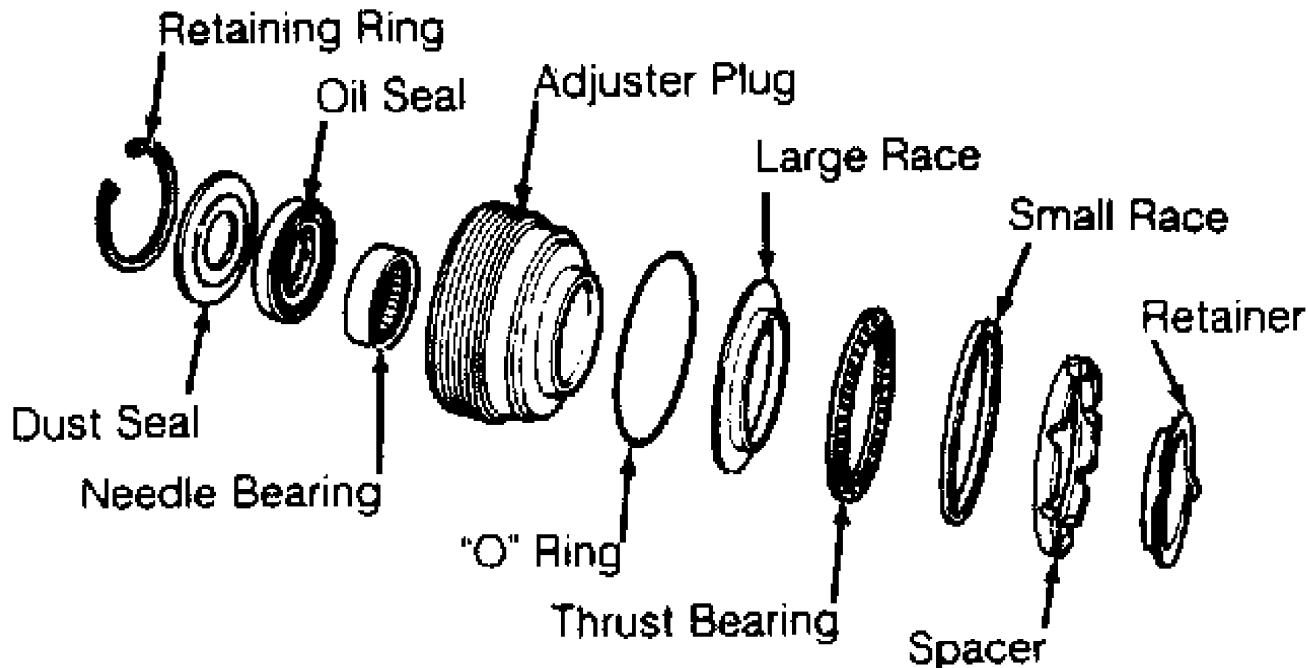

Fig. 7: Exploded View Of Adjuster Plug Assembly
1) Using a screwdriver, carefully remove and discard thrust bearing retainer. Remove spacer, thrust bearing and bearing races. See Fig. 7. Remove and discard adjuster plug "O" ring.